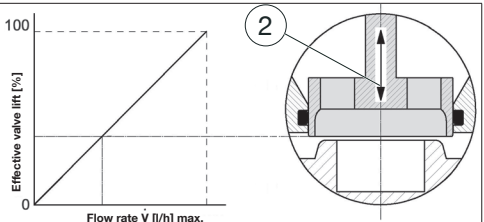

Fig. 5: Linear characteristic line of the regulating unit
The “Cocon QTZ” can be equipped with an actuator activating the regulating unit (2) which has an almost linear characteristic line (see Fig. 5). The room temperature can, for instance, be controlled with the help of actuators and room thermostats. The maximum flow rate (full demand) is selected with the help of the presetting at the handwheel. Operation during low demand periods is controlled via the piston stroke of the actuator. Even during low demand periods with steady control, for instance in conjunction with 0-10 V actuators, the valve authority of the “Cocon QTZ” within the effective valve lift amounts to 100 % ($a = 1$).